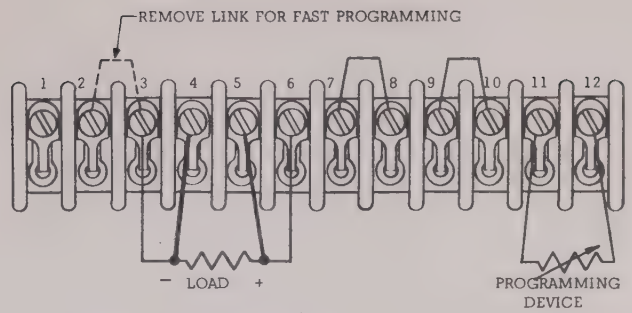

Figure 3-3. Voltage-Mode Programming (with Remote Sensing)
- If fast-programming is desired, remove link between terminals 2 and 3 (Figure 3-3).
- Remove link between terminals 11 and 12, and connect programming resistor (see Figure 3-3). Use twisted or shielded wire for leads.